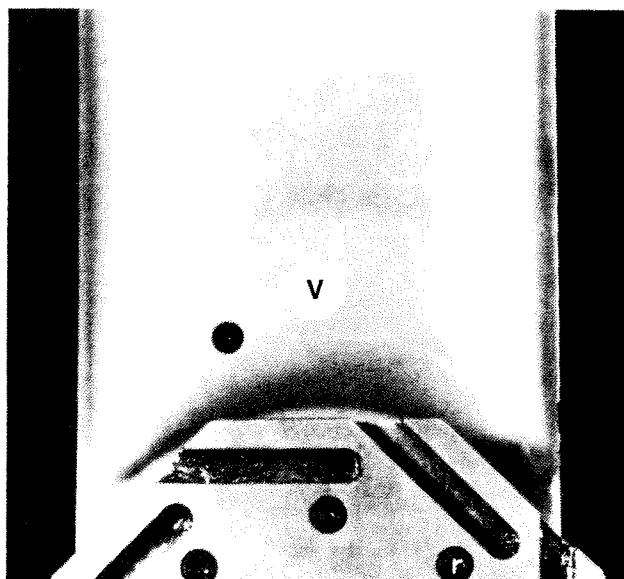

Figure 1.26 - Turret and Cross Slide
4. Remove upper lock screw "V", Figure 1.26, to gain access to the lower lock screw.
18. Tighten lower lock screw "V", Figure 1.26; then back off one turn.